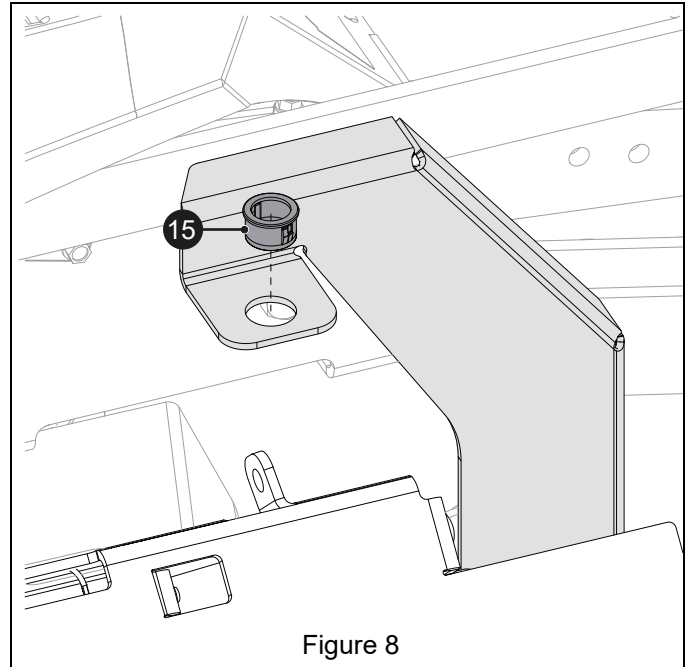

Figure 8
8. Install one 11/16" x 7/8" x 9/16" panel bushing (item 15) into handle mounting bracket. See Figure 8.